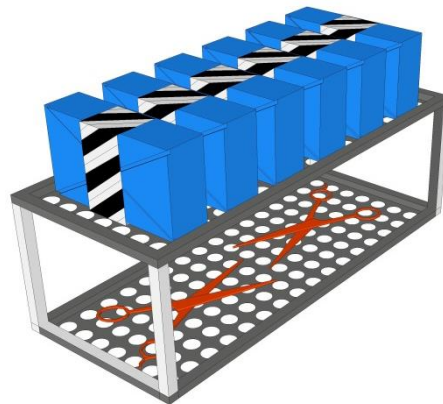

Figure 7
- If sterilization bags and instruments are loaded together, then instruments should be placed at the bottom (Figure 7).